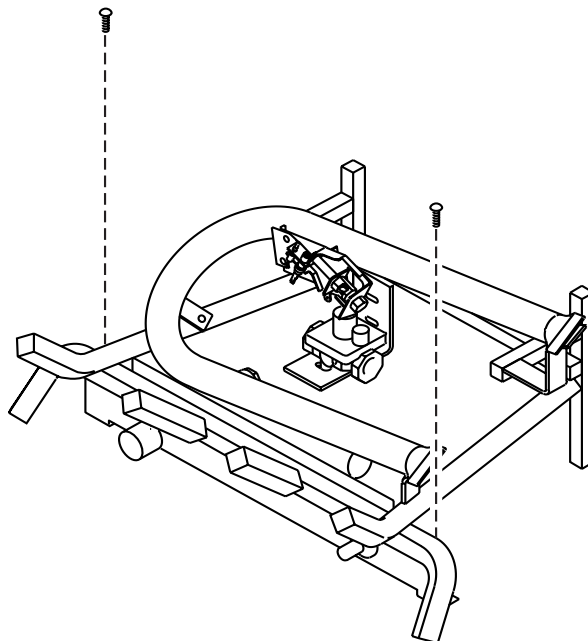

Figure 11: Securing Heater to Floor of Fireplace/Firebox
2. Anchor hole are provided in the front plate of the grate frame. After centering the grate correctly, mark the hole positions on the fireplace/firebox floor. Drill two (2) 5/32" diameter holes approximately 1 1/2" deep.
3. Anchor the grate to the fireplace/firebox floor using the screws provided. Refer to *Figure 11*.